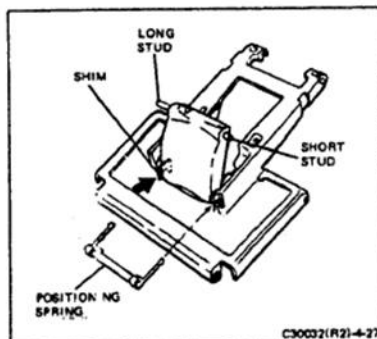

FIGURE 4-27 ORIENTATION OF SHIM AND POSITIONING SPRING
- a. If the spring just removed is in good condition, install it on the replacement concave mirror housing as shown in Figure 4-27. Otherwise, install a new spring.
- b. The mirror housing has two short studs on one side and two long studs on the other. Note that the flat side of the studs line up with the slots in the housing. (Refer to Figure 4-27.) Insert the lower short stud into its slot on the left side of the short cover.
- (1) If the exit pupil image seen in the gage is too far to the right, install a shim at the right-hand pivot point of the mirror. (Refer again to Figure 4-27.) Two shims are available, both with the same part number, 705888. One shim is red and is 0.036 inches thick and the other shim is blue and is 0.040 inches thick. Use the shim which brings the exit pupil image to the center of the gage.
- (2) If the exit pupil image is too far to the left as seen in the gage, install a red or blue shim at the left-hand pivot point of the mirror.